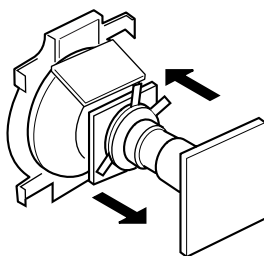

Fig. 3-1
(See Figures 3-1 through 3-4.)
4. Move the deflection yoke forward and adjust so that the entire screen is green. (See Figure 3-1.)